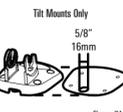

Figure 7A
- 1a. Mark and drill a 5/8" hole centered between the two rear mounting holes as shown in Figure 7A. Route the cables through the hole. The cables will exit through the notch on the base of the Tilt Mount.